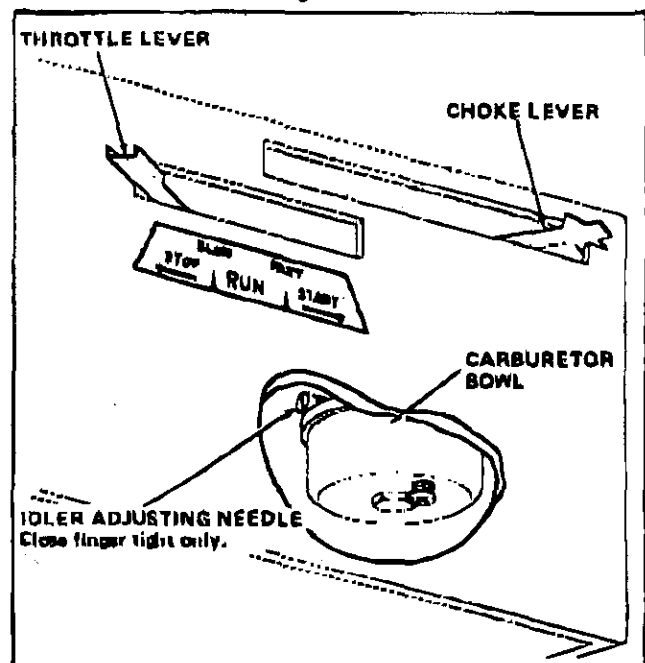

Figure 20
3. Turn idle adjusting screw (figure 20) forward or backward 1/8 turn at a time until engine runs smoothly. **NOTE:** Always allow several seconds between each adjustment for the carburetor to react to the new setting.